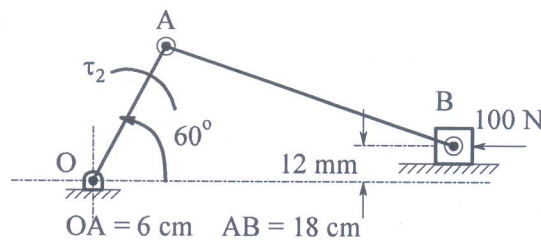

Fig. 1
- 1 The applied load on the piston of an offset slider-crank linkage shown in Fig.1 is 100 N, and the coefficient of friction between the slider and the guide is 0.27, using graphical method determine the magnitude and sense of torque τ_2 applied on OA for the static equilibrium of the linkage. (10)